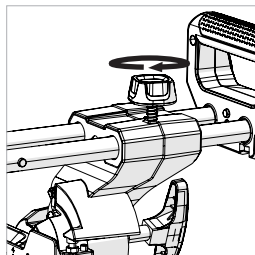

Fig. 12
- Screw the carriage slide locking screw into the threaded hole above the right hand arm of the carriage slide. **(Fig. 12)**